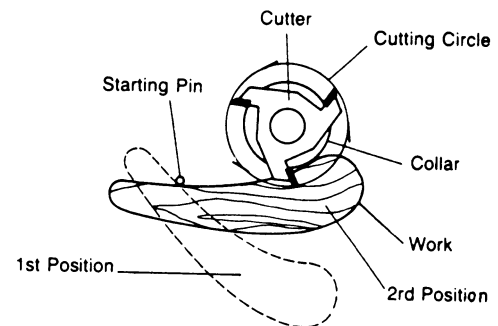

Fig. 17
1. Work should be placed in the first position using the guide pin as support, as shown in figure 17. Then swing the work into the cutter as shown in the second position. The work will now be supported by the collar and starting pin.